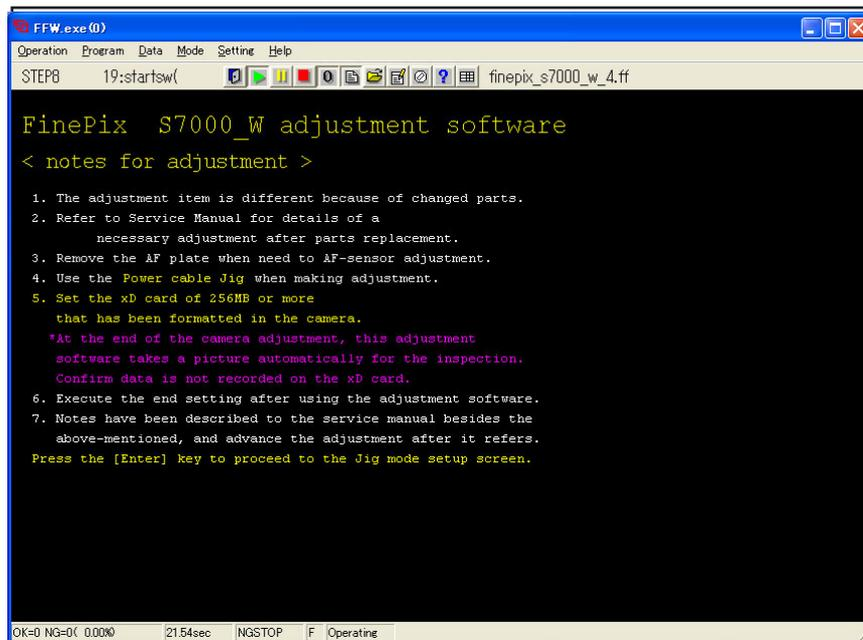

Fig.2
---> [Initial Screen (Fig.2)] appears.